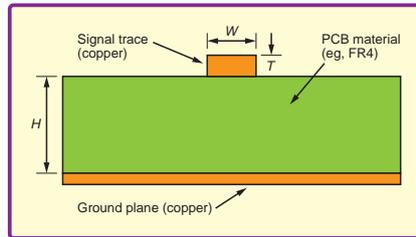
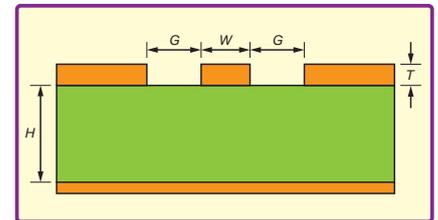
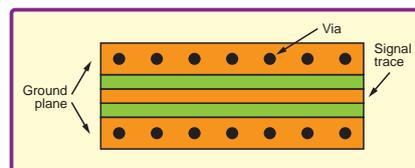

Fig.2. Cross section of a microstrip PCB trace
Fig.4. Cross section of a coplanar waveguide PCB trace
Fig.7. Via fences along the ground plane of a coplanar waveguide signal trace (top view)
geometries that are given specific names, and it is these names that should be used to find appropriate online calculators when designing PCBs. Three of the most common geometries for single signal traces are shown in Fig.2 to Fig.4. There are also similar geometries for two-signal traces, typically used for differential signals. This is not an exhaustive list of geometries, and several other variations can be used. Also note these figures are not to scale – the copper is shown much thicker than in reality for ease of annotation.
Fig.2 shows the 'microstrip' geometry. This is essentially a straight trace running across the top of a double-sided PCB without any other copper close by, and with a ground plane on the other side of the board. A ground plane is simply a large area of copper on the board that has a good connection to signal ground and which provides the return path for the signal. In PCB design tools, ground planes are often created by copper 'pour' or 'fill' functionality, rather than being specifically drawn. To obtain a microstrip geometry, automatic copper pour needs to be prevented from adding copper close to the trace on the top of the board.
Fig.4 shows another common geometry for double-sided (two-layer) boards, the 'coplanar waveguide' (strictly speaking it is a coplanar waveguide with ground, as just the upper layer on its own is a coplanar waveguide). The coplanar ground plane is separated from the signal trace by a gap of width (G). Like the width of the trace, this gap is constant along the length of the trace. The geometry parameters for the coplanar waveguide are the same as for the microstrip, plus the value of G , although T is less important than for the microstrip and is not included in some calculators.
If you know the geometry you want, and have the PCB datasheet values (the dielectric constant and the thicknesses (T and H parameters in Fig.2 to Fig.4)), then you can use an online calculator to find the right width of trace for the required transmission line characteristic impedance for your circuit design. There are many sites providing line impedance calculators for PCB geometries such as those discussed above, and others. These sites include everythingrf.com, pasternack.com, eeweb.com, microwaves101.com and emtalk.com
The upper and lower ground planes of a coplanar waveguide (Fig.4) should be shorted together – they will be at some point on the PCB, but circuit performance will be better if they are shorted close to the signal path. This is achieved using what is known as a 'via fence'. A via is a connection between layers on a PCB which is achieved in commercially manufactured PCBs by drilling a hole and plating the sides with metal to form the connection (plated through hole). A via fence is simply a row of closely spaced vias along the edge of the ground plane – a top view of this is shown in Fig.7. The vias are not shown in the cross section in Fig.4.